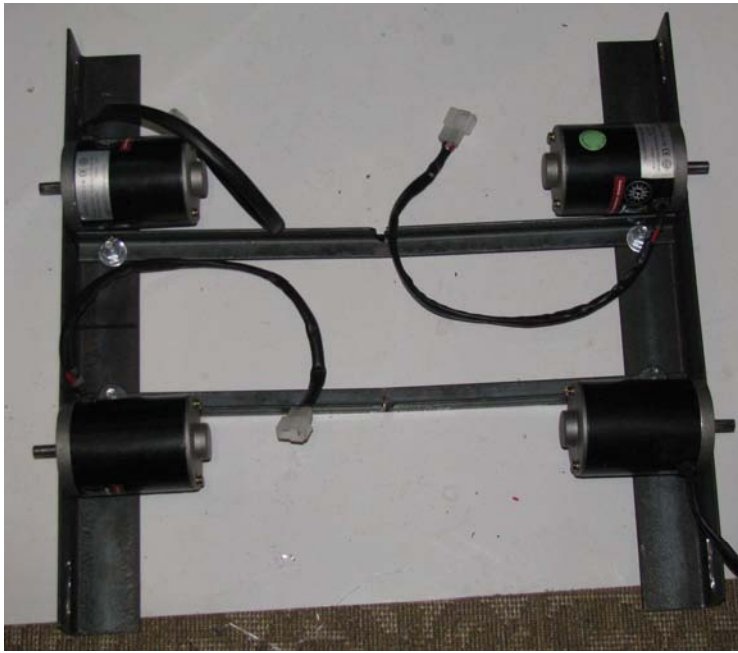

Figure 12-12. The assembled subframe
4. Assemble the pieces together. I first mounted the motors using the two lower bolts to secure each motor to the frame and then lined up the two center frame supports as close to the inside of each motor as would fit. I then marked each hole location with a permanent marker and drilled the mounting holes through the base of the side rails and ends of the center supports. After drilling the mounting holes, you can install the center supports using two bolts on each support (one on each end), as shown in Figure 12-12: